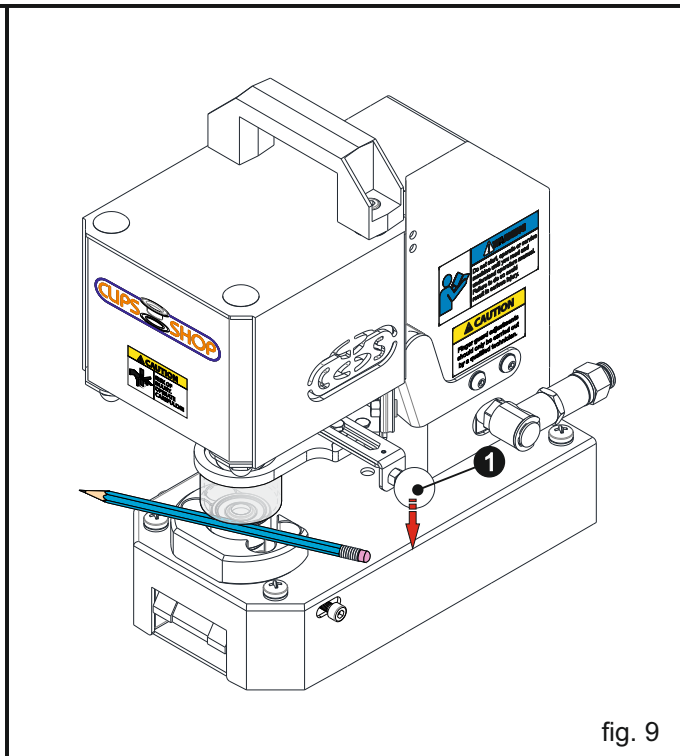

fig. 9
As shown in the (fig. 9), gently pull down the manual starter arm ①. If the machine does not work when the clear acrylic cover touches your test material, you can safely start using your machine. **IF NOT, YOU SHALL FOLLOW THE PROCEDURES DESCRIBED UNDER THE TITLE "CS-TIDY-51 Finger Guard Adjustment"**